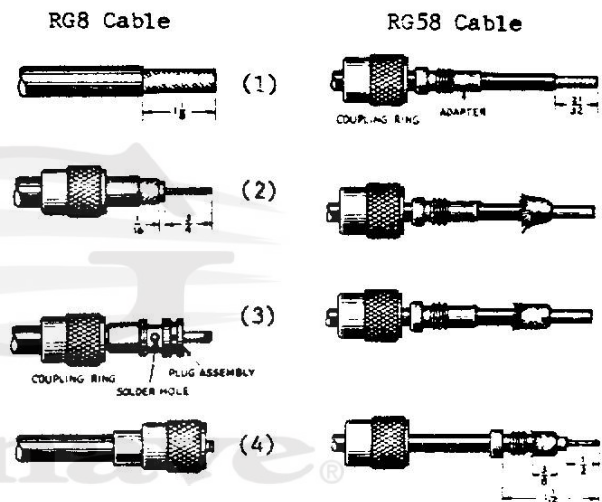

Figure 2-4. Connector Assembly
The procedure for installing a PL-259 (83-1SP) antenna connector is dependent upon type co-axial cable used - the PL-259 is installed directly on 0.405" OD cable such as RG8/A, whereas, the plug requires an adapter when used with the 0.195" OD cable such as RG58/A. The procedures for both cable types are given below, and shown in Figure 2-4.
1. Trim end of cable flush; remove vinyl jacket from 1-1/8" of cable as shown in Figure 2-4 (1). Do NOT nick braid.
2. Bare 3/4" of center conductor. Trim braided shield 1/16" and tin. Slide coupling ring on cable. See Figure 2-4 (2) above.
1. Trim end of cable flush; remove vinyl jacket from 21/32" of cable as shown in Figure 2-4(1). Do NOT nick braid. Slide the coupling ring and adapter on cable.
2. Fan braid slightly and fold back over cable. See Figure 2-4(2).
3. Compress braid around cable, Figure 2-4(3), and position adapter to the dimension given in Figure 2-4 (4). Press braid over adapter sleeve and trim to dimension shown.